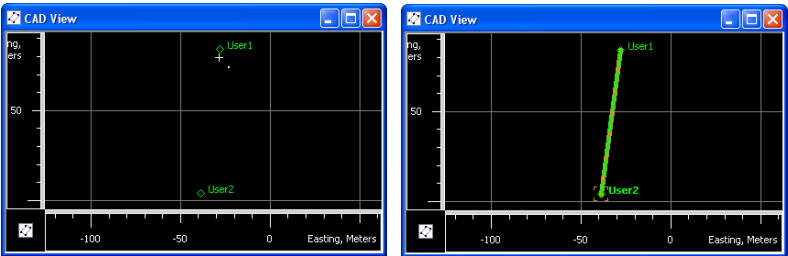

Figure 5-31. Plot A Line Between Two Existing Points
- To plot a line, click **Edit ▶ Add ▶ Line** (or click the **Add Line** button on the Toolbar), click the ‘*append point*’ cursor on the first point, then click on the second point. The line will be created between those points (Figure 5-31).